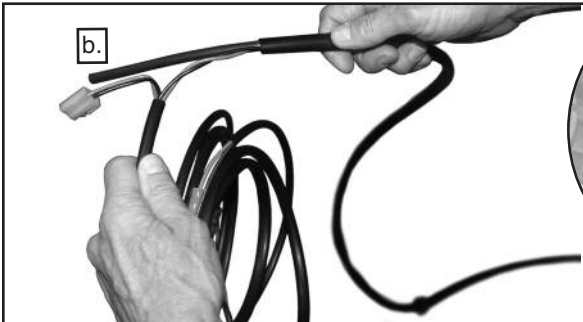

Figure 9
Take the Quick-Connector section and fold it against the Rubber Hose section. Secure the two sheaths with a Zip-Tie (11) and trim the excess. **Figure 9 (Wire Cutters)**